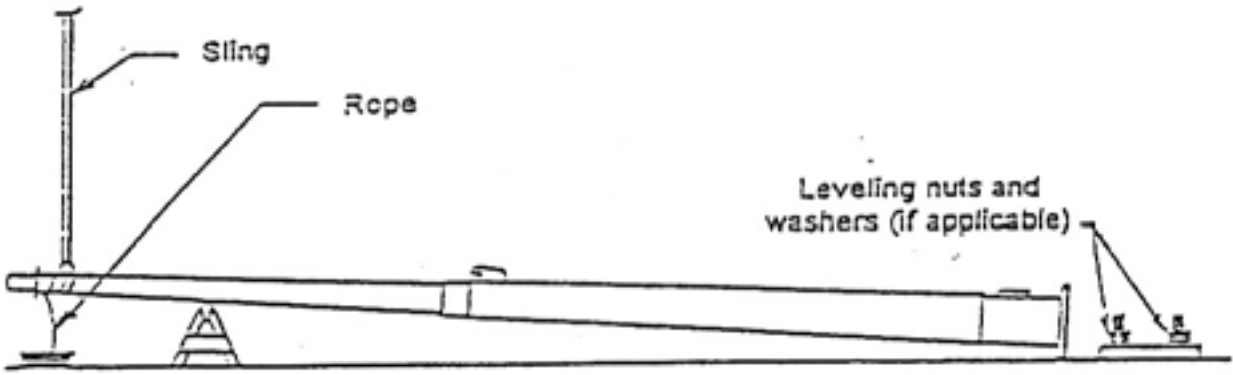

FIGURE 3
5. Attach rope to top of pole (FIG. 3).
6. Attach sling (FIG. 3).